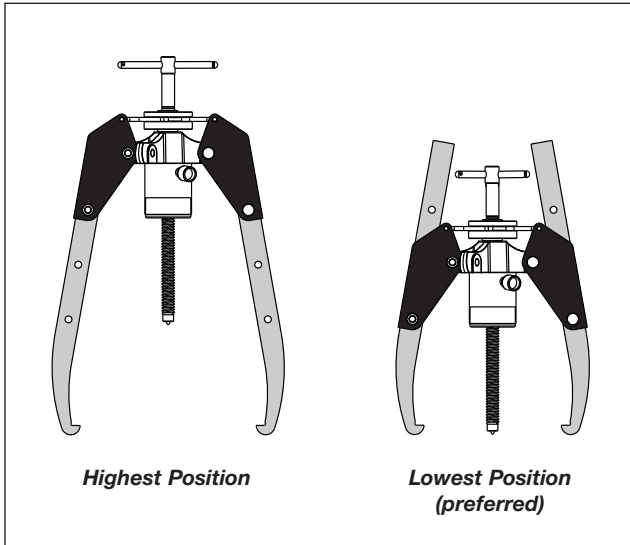

Figure 7, Jaw Mounting Positions (typical)
- To reduce the possibility of jaw deformation, always work with the jaws installed in the lowest possible mounting holes. Use the higher mounting holes only if necessary to provide clearance around large components. See Figure 7.